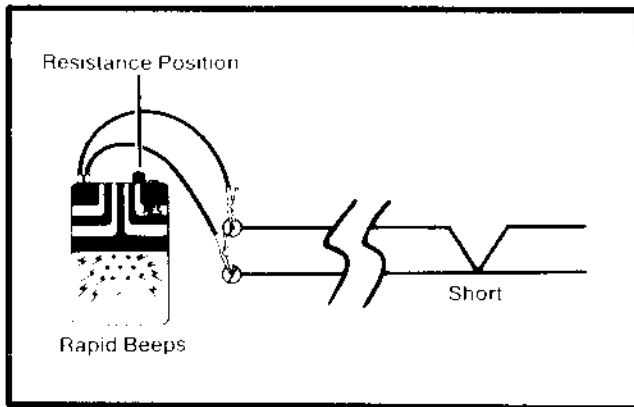

Figure 5 — Testing for Shorts
- (1) Connect the 100B Test Set to the pair as shown in Figure 5.